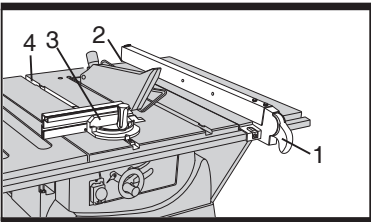

Fig 11
- 1) Lift upward on the rip fence handle (1) so the rear holding clamp (2) is fully extended.
- 3) Push down on the fence handle (1) to lock
- 4) Place the mitre gauge (3) in the groove (4) on the table top. (See fig. 11).